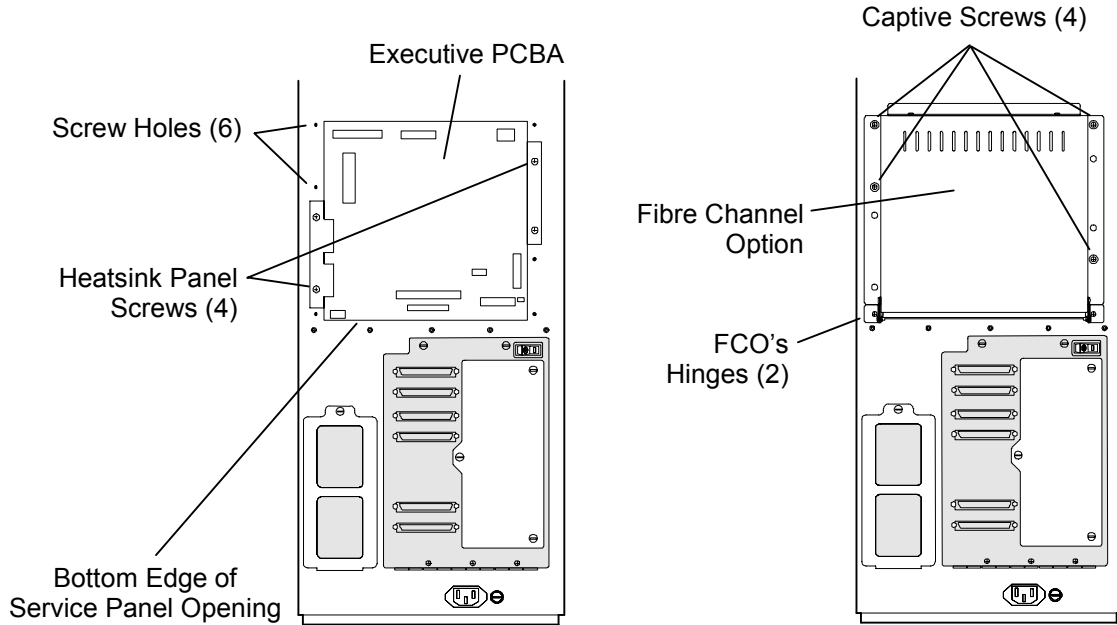

Figure 4-5 Rear View of TLS
4. Place the lower lip of the FCO inside the bottom edge of the service panel opening and tilt the FCO upwards, making sure that the heatsink panel screws align with the openings in the FCO. See Figure 4-5. The hinge surfaces should rest flat against the rear of the library.
5. Using a Phillips screwdriver, secure the FCO to the rear of the library at the FCO's two top captive screws. See Figure 4-5.
6. Using two of the screws that were removed with the service panel, attach the FCO's two hinges to the rear of the library. See Figure 4-5.
15. Carefully lift the FCO until it touches the rear of the TLS. Using a Phillips screwdriver, secure the Fibre Channel Option to the rear of the TLS by tightening all four of the captive screws. Refer to Figure 4-5 for captive screw locations.